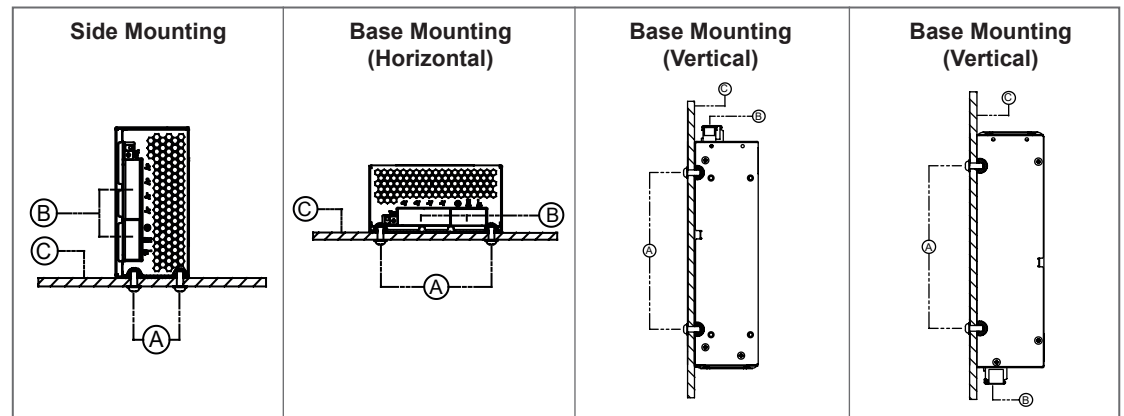

Fig. 2. Mounting Orientations
- ① Input terminal block connector
- ② Output terminal block connector
- ③ DC Voltage adjustment potentiometer
- ④ DC OK control LED (Green)
- ⑤ DC Fan
The unit is protected with internal fuse (not replaceable) at L pin and it has been tested and approved on 20A (UL) and 16A (IEC) branch circuits without additional protection device. Refer to Fig. 2.: